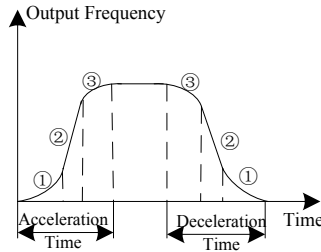

Fig.6-4 S-curve acceleration/deceleration
Starting process of S-curve is shown in Fig.6-4 as “①”, where the changing rate of output frequency increases from 0;
Rising process of S-curve is shown in Fig.6-4 as “②”, where the changing rate of output frequency is constant;
Ending process of S-curve is shown in Fig.6-4 as “③”, where the changing rate of output frequency decreases to zero.